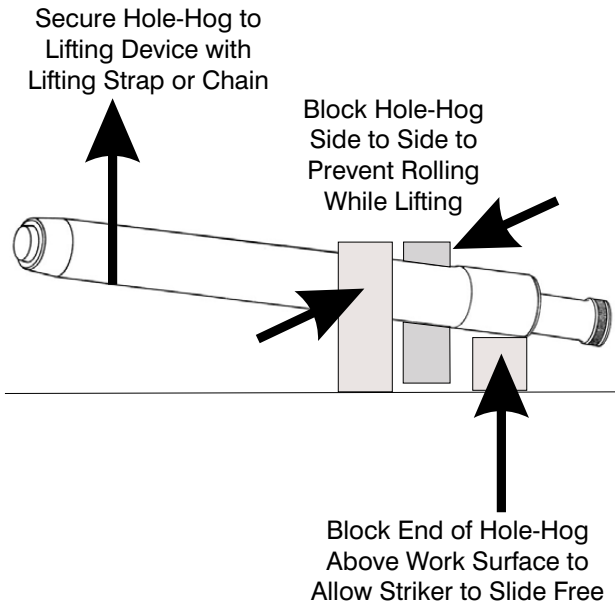

Figure 8-5. Tilting the Body/Anvil to Access the Striker.
- b. Tip the Body/Anvil (1) so the end of the Striker (2) slides out of the Body/Anvil about six to eight inches. (Figure 8-5).